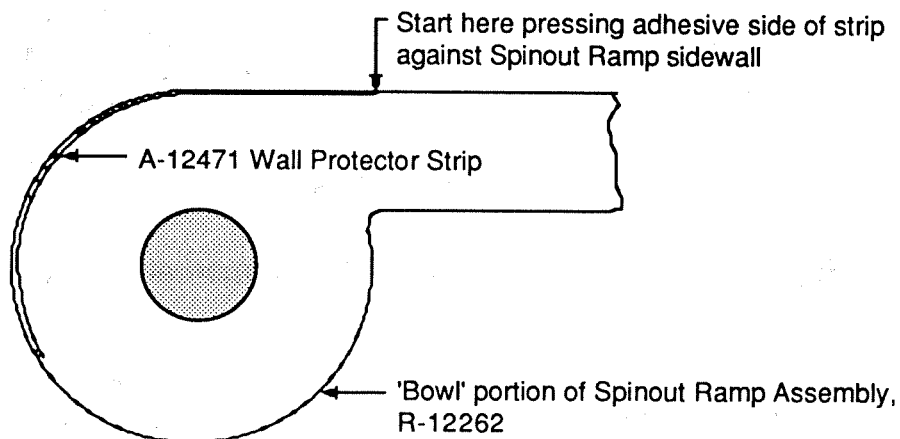

Figure 1. Installation of Spinout Ramp Wall Protector Strip
- [] 3. Remove the six (6) Phillips-head screws holding down the cover of the Spinout Ramp Assembly (R-12262) to expose the interior of the ramp. Wipe the sidewall of the 'bowl' portion of the spinout ramp as clean as possible.
- [] 4. Remove the tape covering from the back of the Spinout Ramp Wall Protector Strip (A-12471). Starting on the right sidewall of the ramp where the rounded 'bowl' portion begins, as shown in Figure 1, approximately 3/8" below the upper edge of the ramp, mount the Wall Protector Strip by pressing the adhesive side firmly to the sidewall of the ramp.